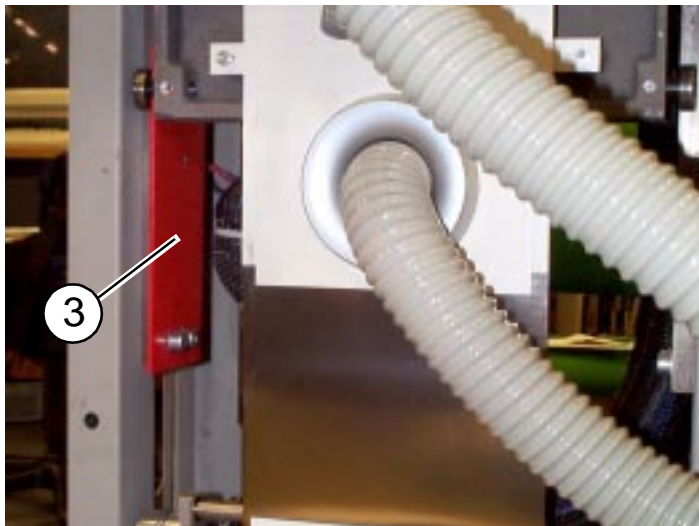

Fig. 3
3. Secure the lifting carriage with the transport safeguard (see Fig. 3, pos.3).
9. Remove the transport safeguard (see Fig. 3, pos.3).